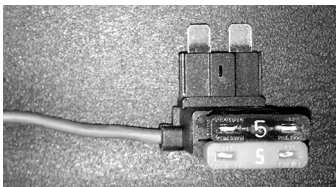

FIG. 59
12. Attach an ATM fuse splice connector to the power wire of the controller (FIG. 59) using the wiring procedure described in Steps 1- 5, page 31. Install a 5 Amp fuse.